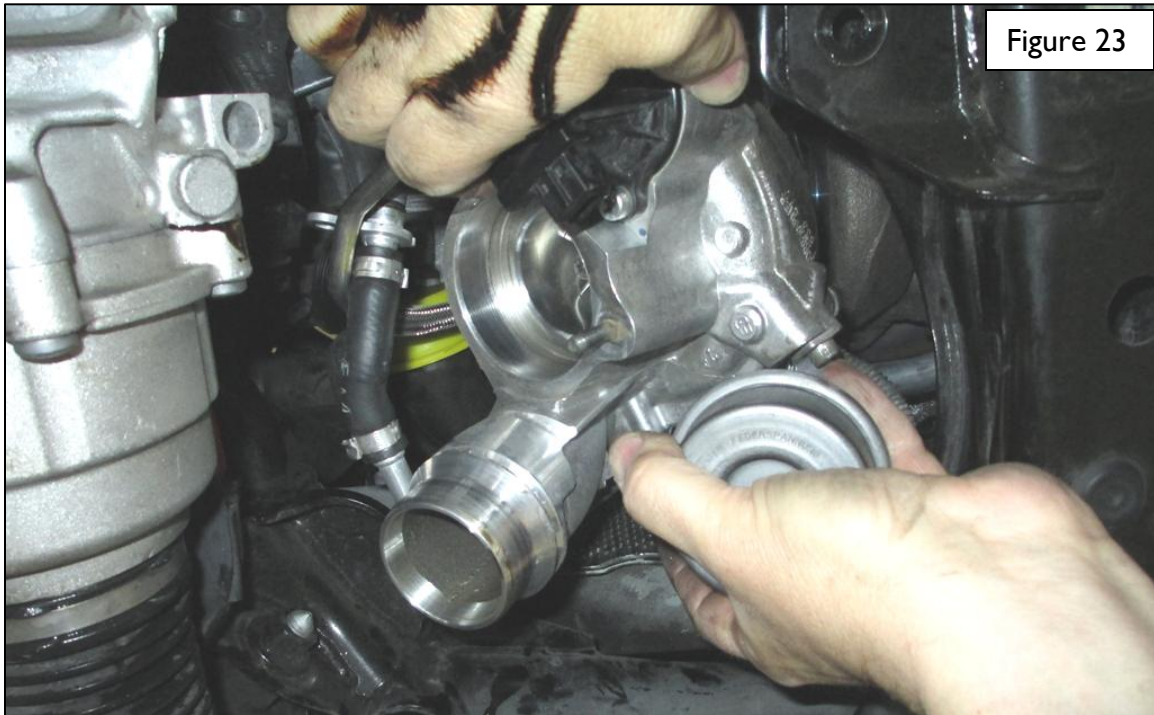

Figure 23
- See Figure 23. Carefully pull the turbo forward, down, and out the front of the car between the subframe and the steering rack that you moved aside.